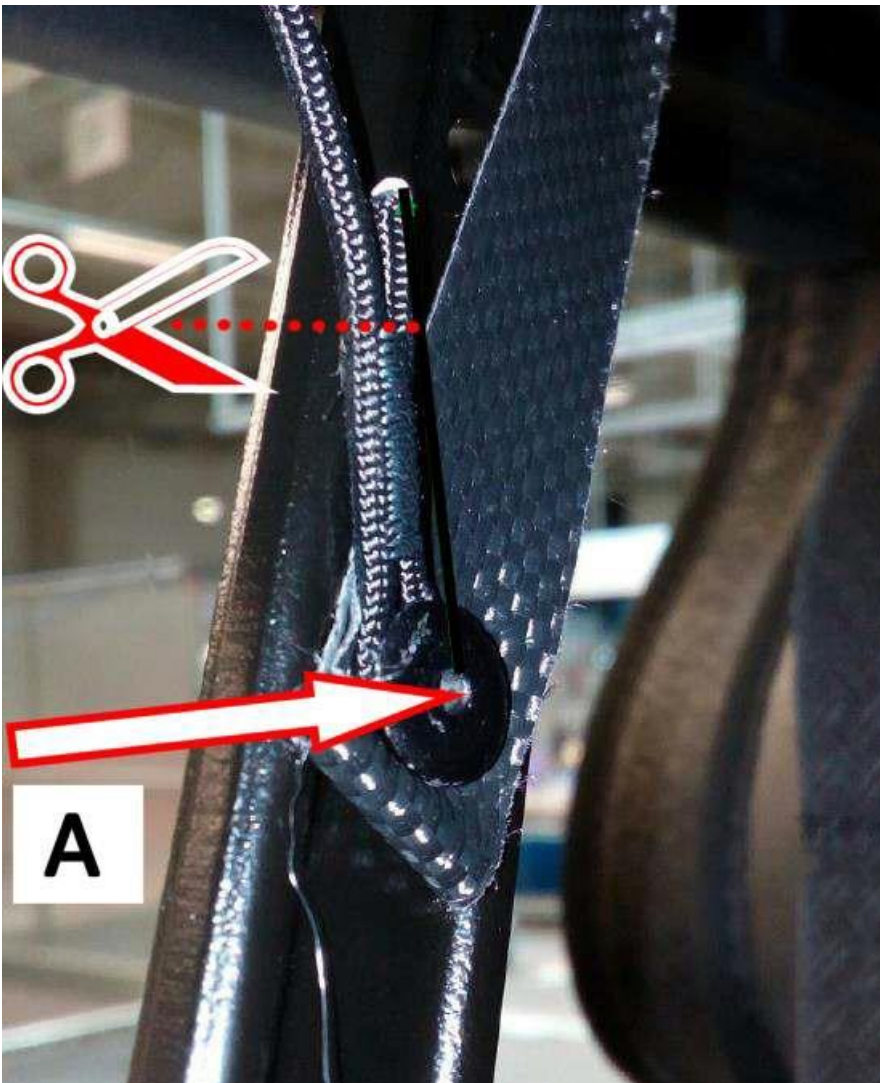

Figure 5
4) Referring to Figure 5- Locate the rivet (Point A) which secures the header trim flap cord to the hood frame (DO NOT REMOVE THE RIVET)